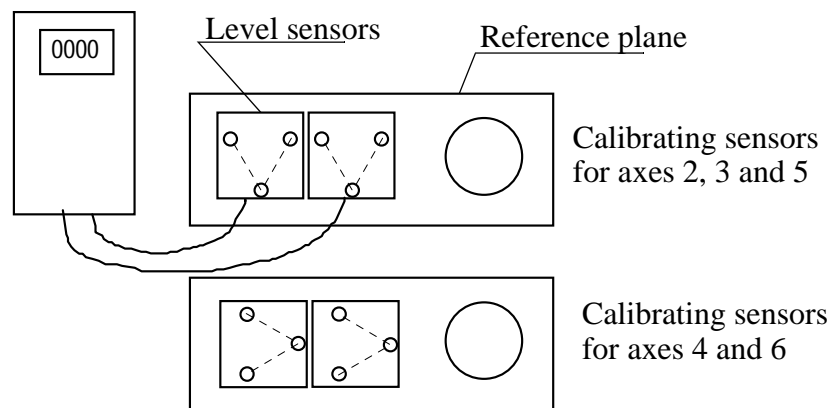

Figure 11 Calibrating the sensors.
17. Calibrate the sensors against each other, using the reference plane surface. See Figure 11. The sensors must be calibrated every time they are used for a new direction.
27. Calibrate the sensors for a new direction. See Figure 11.
33. Calibrate the sensors for a new direction. See Figure 11.
36. Calibrate the sensors for a new direction. See Figure 11.